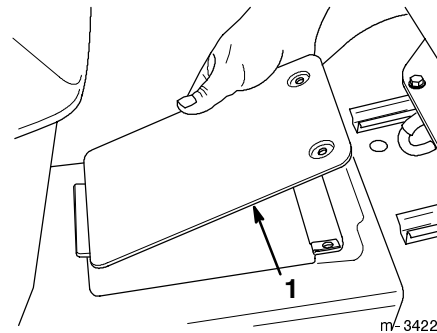

Figure 37
3. Open the drive shaft maintenance cover on the tractor tunnel near the seat by unscrewing the two screws securing it, then raising it (Fig. 37).